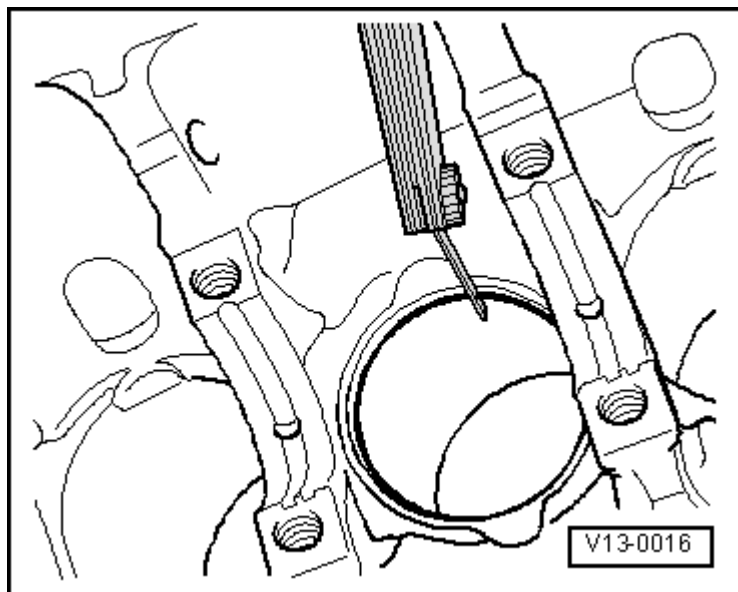

Fig. 27: Identifying Check Of Piston Ring Gap
- Ring gap, checking. Refer to **Fig. 27**.